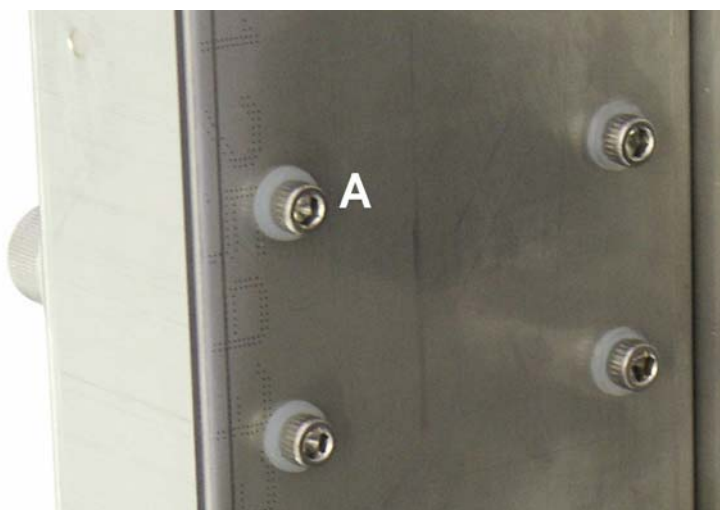

Fig. 8. Back-side of pulse damper compartment. View of retaining screws of pulse damper.
3. Fix the pulse damper to the back side of the compartment using the supplied hex screws and nylon rings. The screws should be fixed in the same manner as shown in figure 8.